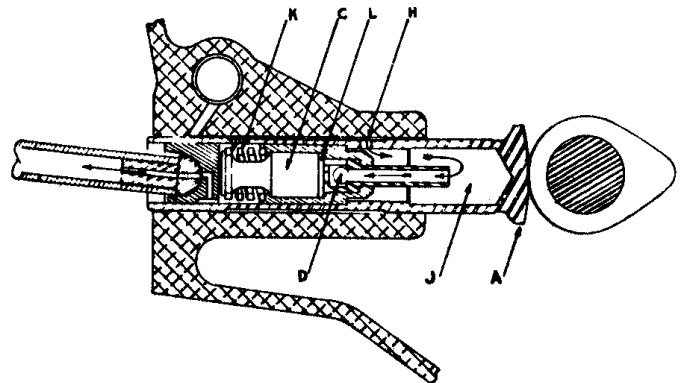

Figure 8. Section Through Hydraulic Valve Lifter.
Each lifter assembly is composed of an outer body, a hydraulic unit and a pushrod socket. These parts are illustrated in Figure 8. The cam follower is part of the lifter body. The shank of the body is encircled by two oil grooves, which are connected by a flat area. Two holes are drilled through the shank wall in the flat. The hydraulic unit rests against a shoulder in the body. It is composed of a cylinder and a plunger and expanding spring assembly. An inlet tube at the inner end of the cylinder is closed by a ball check valve inside the cylinder. The pushrod socket rests on the head of the hydraulic unit plunger. Its flat base has an oil groove across the center. A hole is drilled from the groove to the socket surface.
Rotation of the lifter is assured by a small taper on the toe line of the cam lobe. This prevents wearing of a groove in the cam follower face. At the outer end of the lifter stroke the outer encircling groove in the shank registers with the crankcase oil supply hole, and engine lubricating oil is forced into the groove, to the flat area and through the two holes in the shank wall. Oil entering the outer hole fills the space surrounding the plunger head, and the intermittent supply flows through the pushrod socket passage and into the hollow pushrod. Oil which enters the inner hole in the shank wall replenishes the reservoir supply. This inlet is indicated in Figure 8 by the letter "H". whenever the valve in the engine cylinder is closed, the cam follower (a) is in contact with the heel of the cam lobe, as shown in Figure 8. Since there is no inward force on the pushrod, the plunger spring (K) holds the plunger (C) and the socket outward against the pushrod end and the hydraulic unit cylinder and lifter body inward, keeping the cam follower against the cam lobe. This expanding action takes up any increase in effective length of the valve linkage due to expansion of the engine cylinder. It also compensates for any wear in linkage parts. Such expansion in the
Oil sprayed into the cylinders is scraped back into the case by piston rings. Piston pins and cylinder walls are lubricated and cooled by the spray. Gears in the crankcase cover cavity are lubricated by spray from rear main and rear camshaft bearings. Valve lifters are supplied with oil, as described in paragraph 3-16 and shown in figure 8. From the lifter sockets, oil flows through the hollow pushrods to the rocker arm passages described in paragraph 3-23, to lubricate the rocker bushings and the valve stems. Oil sprayed into the rocker boxes drains back to the crankcase through the pushrod housings. All the oil returned to the crankcase and the portion which is sprayed into the rear cover drains back to the sump through the open center of the sump mount flange.